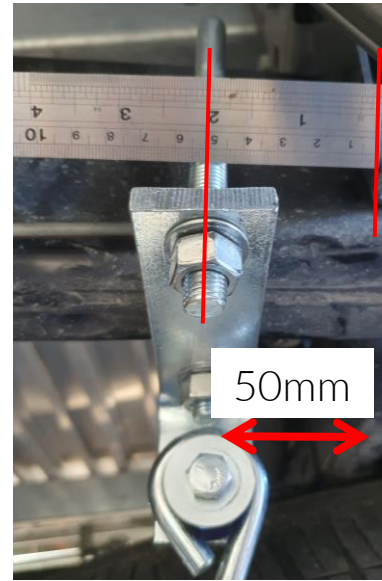

Figure 3: Sway bar Installation (Left Hand Side Shown)
- Install the left-hand side link pin to the L-bracket in the orientation shown in Figure 3. The bolts should be pointing inward, with the nuts on the inside.
- Position the left-hand side L-bracket U-bolt approximately 50mm from the well-body/tray mount, as shown in Figure 3. Slide the L-bracket outward so the U-bolt is held against the inside of the chassis rail, then tighten all fasteners. Repeat for the right-hand side.